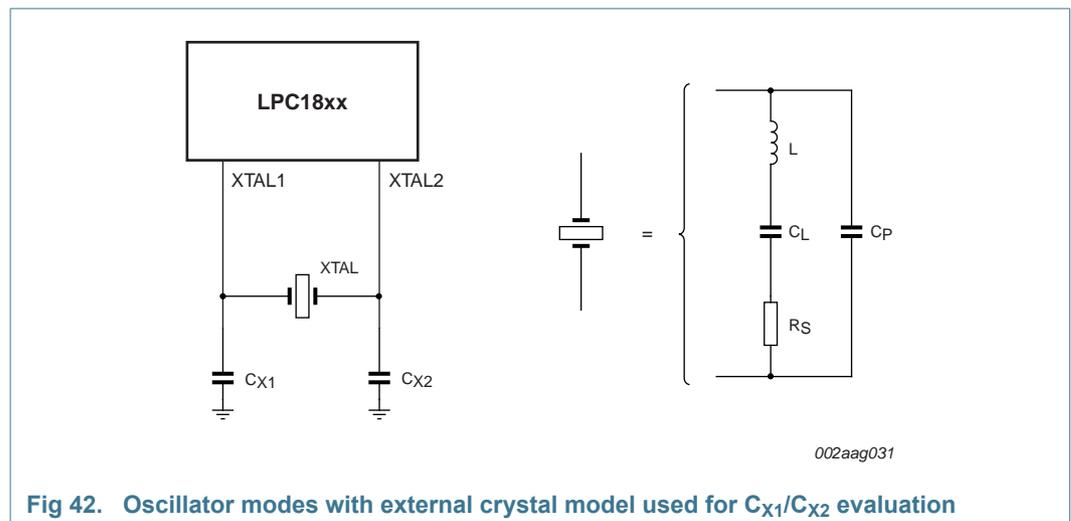

Fig 42. Oscillator modes with external crystal model used for C_{X1}/C_{X2} evaluation
- External components and models used in oscillation mode are shown in Figure 42, and in Table 42 and Table 43. Since the feedback resistance is integrated on chip, only a crystal and the capacitances C_{X1} and C_{X2} need to be connected externally in case of fundamental mode oscillation (L , C_L and R_s represent the fundamental frequency). Capacitance C_P in Figure 42 represents the parallel package capacitance and must not be larger than 7 pF. Parameters F_C , C_L , R_s and C_P are supplied by the crystal manufacturer.